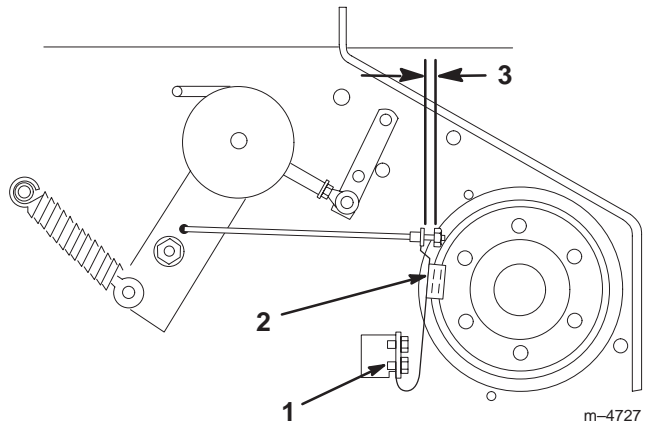

Figure 43
3. If necessary, adjust the spring mounting bolts so that the blade brake pad rubs against the pulley edges (Fig. 43).
4. Adjust the nut at the end of the blade brake rod until there is 1/8-3/16 in. (3-5 mm) between the nut and the spacer (Fig. 43).